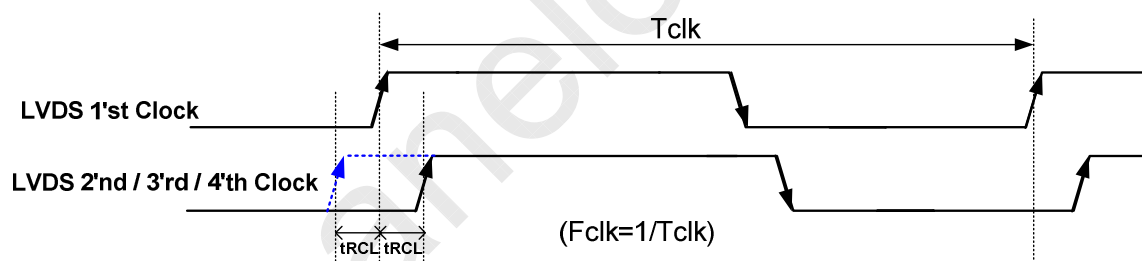

Figure 4: LVDS Clock to Clock Skew Margin
8. Measurement of LVDS Clock to Clock Skew Margin is shown in Figure 4.